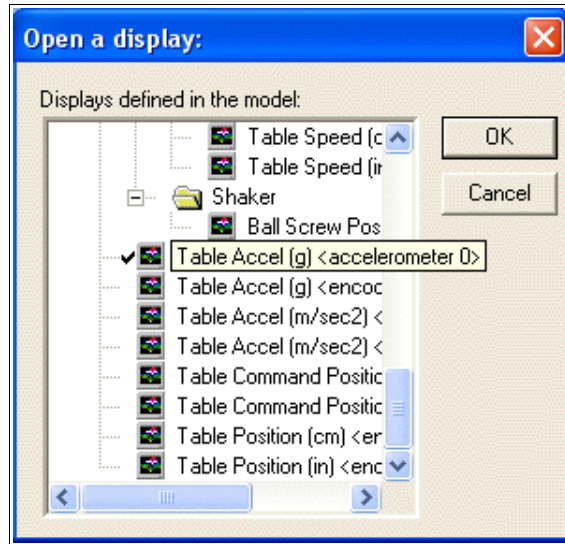

Figure 19 Variables Available for Plotting
- Step 2. Open the plots to be viewed in real-time by selecting the appropriate corresponding variables. For example, as depicted in Figure 19, to view the acceleration of the shake table measured from the accelerometer in g units select the variable Table Accel (g) <accelerometer 0>.
- Step 3. Additional variables can be viewed on the same plot by selecting the *File* menu on the scope, clicking on *Variables*, and choosing the variables to be added. The *Select variables to display* window is similar to Figure 19 and can also be accessed by clicking right on the plot area.